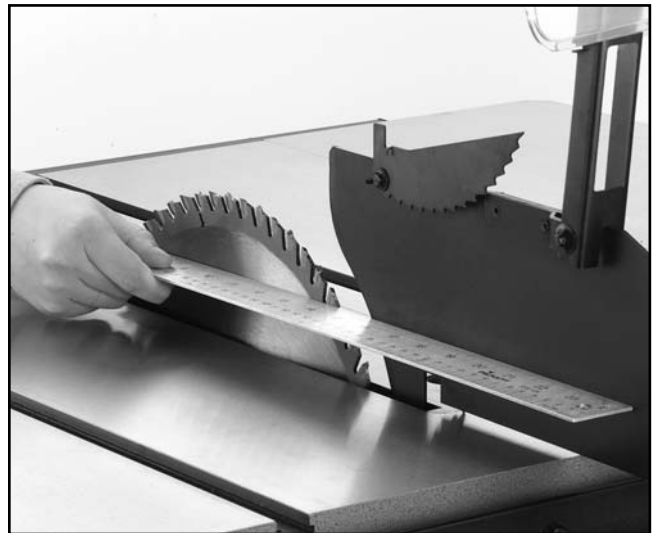

Figure 14. Guard in line with blade.
3. Next, set a straightedge against the face of the saw blade and the blade guard/splitter as shown in **Figure 14**. If the blade guard/splitter is properly aligned, please skip ahead to "Table Insert"; otherwise, continue with the next step.